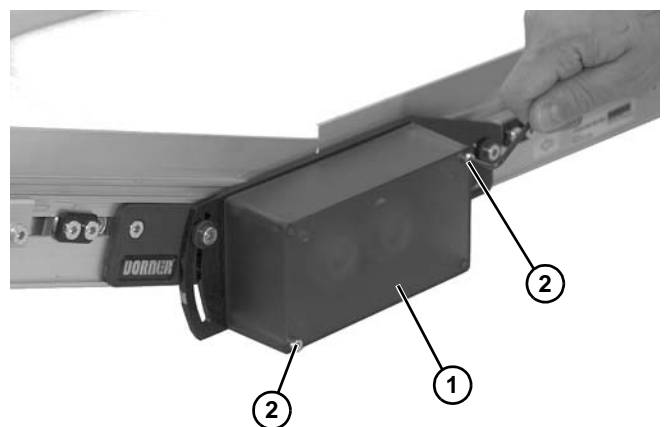

Figure 83
12. Install cover (**Figure 83, item 1**) and two screws (**Figure 83, item 2**). Tighten screws enough to secure cover.